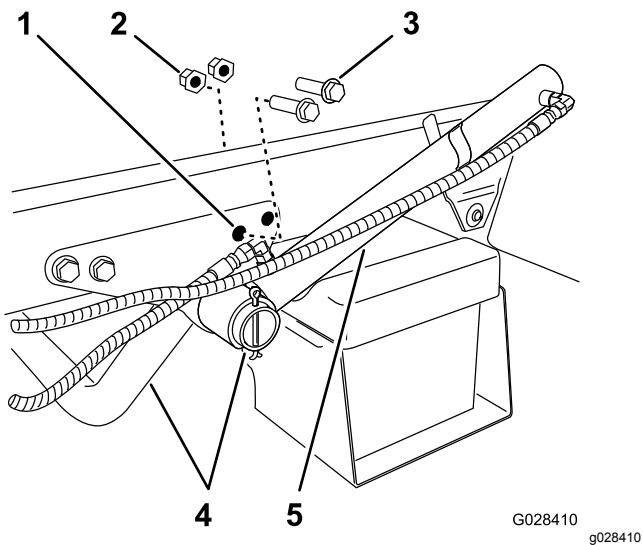

Figure 8
1. Remove the 2 rear flanged-head bolts and 2 flanged locknuts that secure the support bracket for the engine tube to the frame of the machine (Figure 8).
2. Rotate the lift cylinder to provide clearance to install the hold-down bracket for the tank skid (Figure 8).